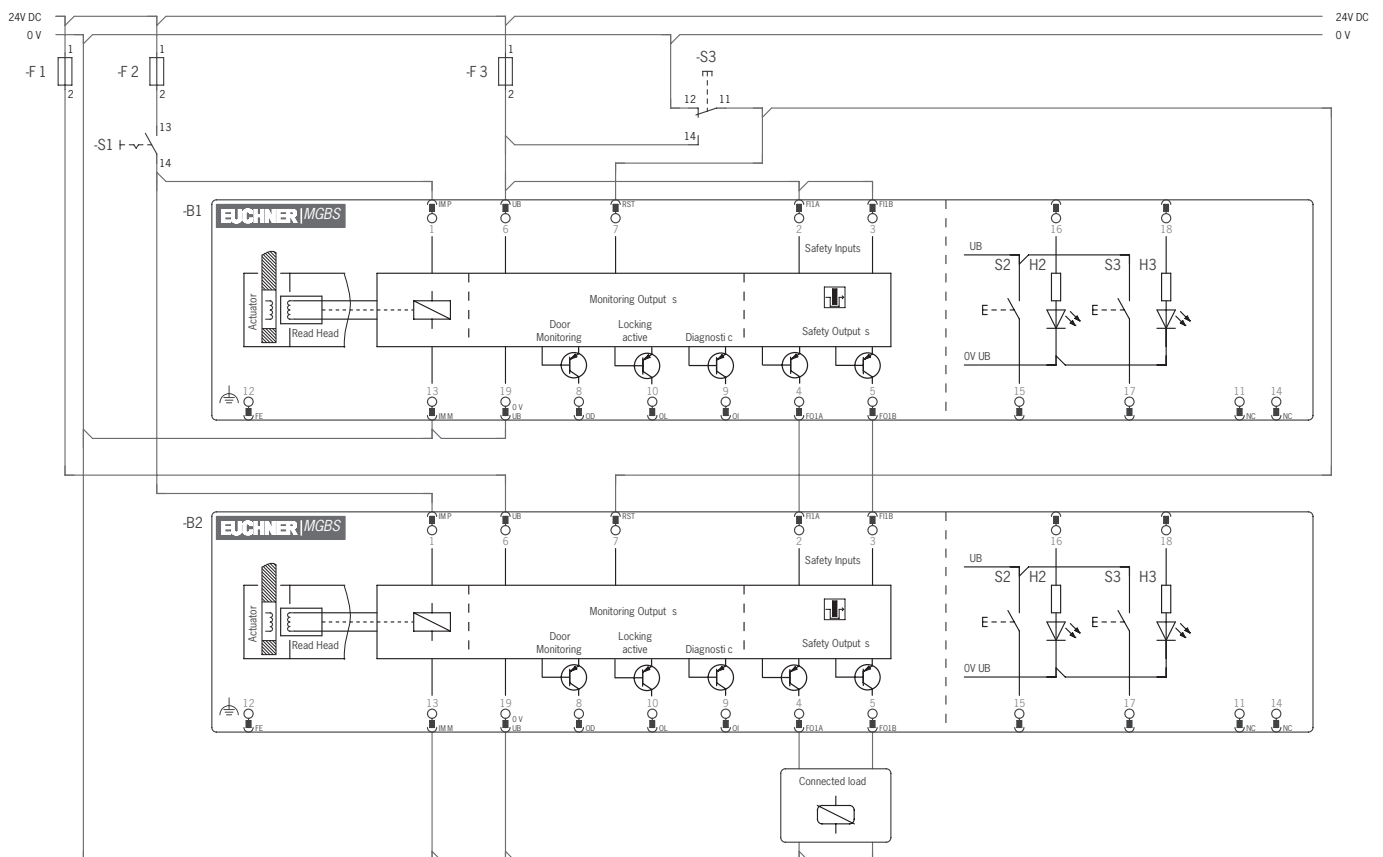

Fig. 6: Connection example for a switch chain; version with plug connector M23
- ▶ A common signal must be used for all locking modules in the chain. This can be a changeover switch or the output of a control system. A pushbutton is not suitable because the reset must always be connected to GND during operation (see switch S3 in Fig. 6 on page 30).
The RST input must be connected as shown in *Fig. 6 on page 30* to permit this.